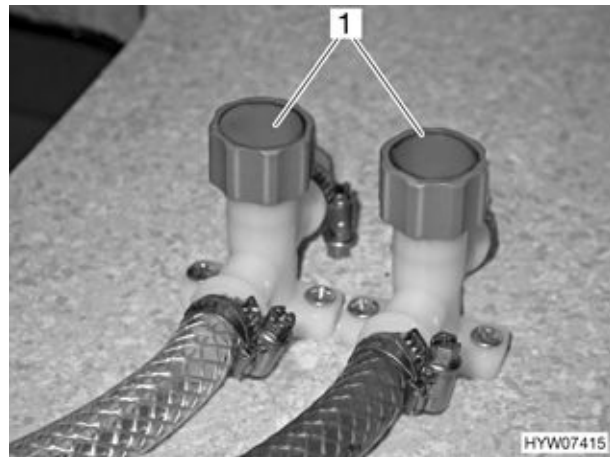
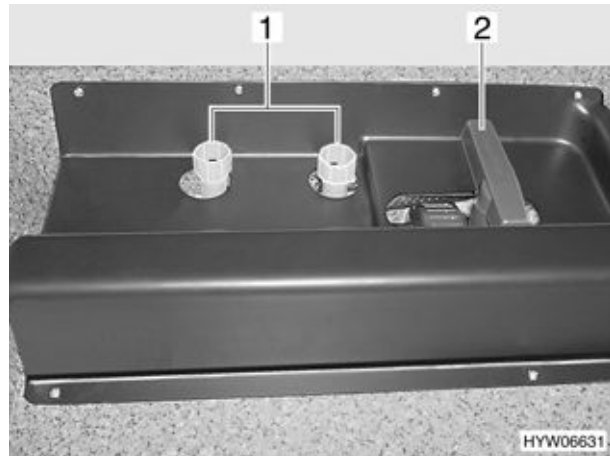

Fig. 158 Drain cocks for models without double floor
Fig. 159 Drain cocks for models with a double floor bottom
- Close the drain cocks: close the valve caps (Fig. 158,1 or Fig. 159,1) by turning them in the clockwise direction. The position where the drain cocks are installed is listed in the "Position of the Drain Cocks" table at the end of this chapter.
- Open the valve caps (Fig. 158,1 or Fig. 159,1) in an anticlockwise direction.